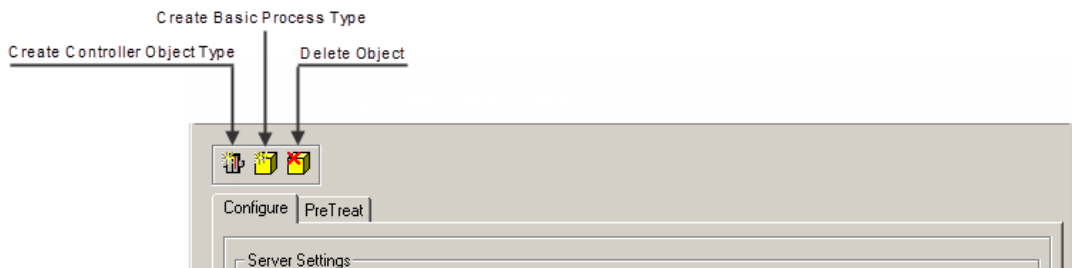

Figure 17. Generic Control Network Configuration Aspect
3. In the Aspect List area, select Generic Control Network Configuration aspect as shown in Figure 17. You can use this aspect to create new controller objects or process objects.
12. Return to the Generic Control Network Object and its Control Network Configuration aspect as shown in Figure 17 on page 29.